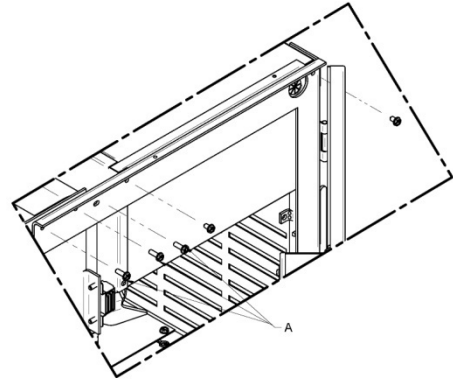

Figure 4
Step 4 : Remove the 10 screws securing the reinforcement in place. There are 5 screws per side. Refer to figure 4 and keep these screws.